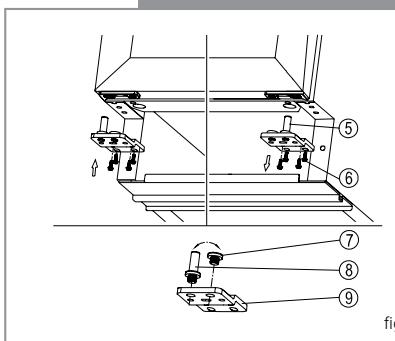

fig. 8
2. Remove the lower hinge (5) by removing the four screws (6) as shown in figure 8. Support the door as you do this to prevent damage.
5. Unscrew and transfer pins (7/8) from the lower hinge plate to the opposite side as shown in figure 8.